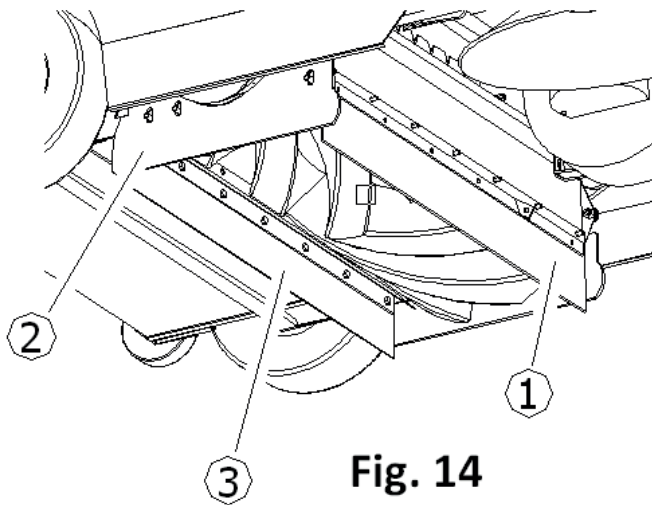

Fig. 14
Every **90/120** hours of operation, check the conditions of the dust washers **Detail 1** (mobile) and **Detail 2 and 3** (3 fixed) **Fig. 14** that surround the central broom, changing them when necessary.
**IMPORTANT:** The height of the side flaps **Detail 2 Fig. 14** can be adjusted by sliding them along the slots. If they need to be replaced, once they have been assembled, make sure that they are raised approximately 2 mm from the ground.